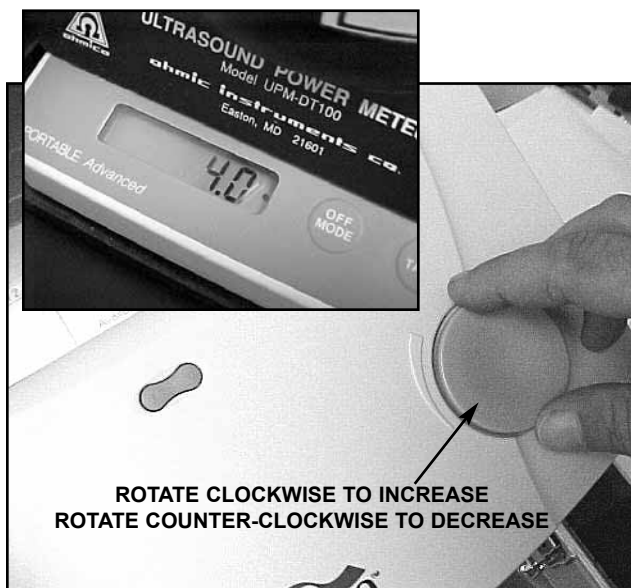

FIGURE 8.3
7. Rotate the “Intensity Control” clockwise until 4.0 is displayed on the Ohmic Instruments UPM DT 10 Ultrasound Power Meter. See Figure 8.3.